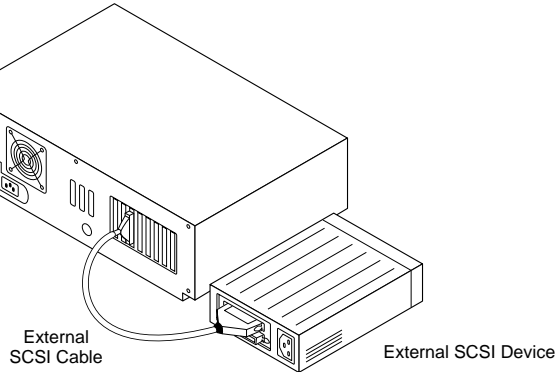

Figure 5-8. External Cable to External SCSI Device
- 2 Attach the connector at the other end of the external cable to either one of the SCSI connectors on the external SCSI device, as shown in Figure 5-8.